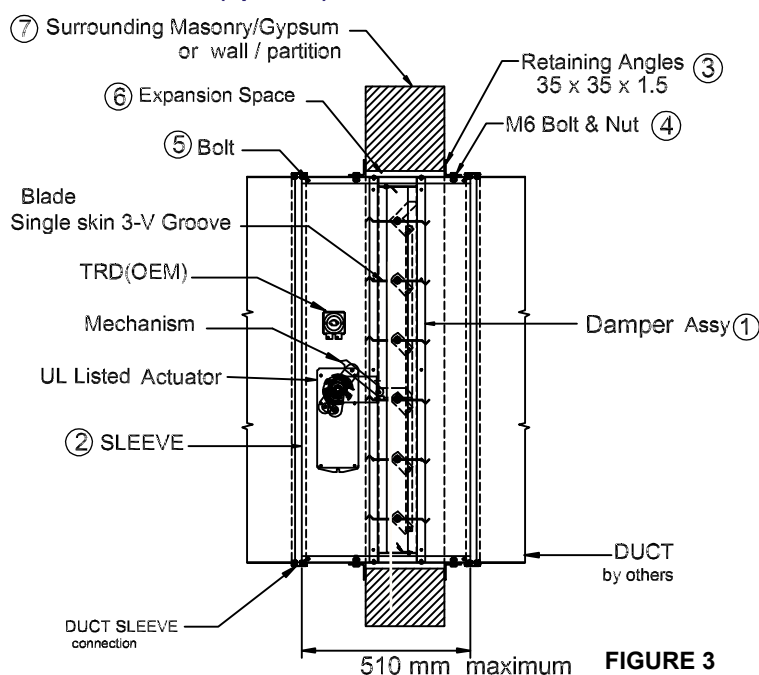

FIGURE 3
- 1) The damper (1) should be installed vertical, centrally and resting on the bottom opening within the surrounding masonry / gypsum wall (7). Actuator should be out of wall / gypsum partition as shown in (figure 3).
- 2) The damper (1) should be installed in a rectangular galvanized steel sleeve (2) with a minimum thickness of 1.1mm. This sleeve should be attached to the damper using M6 bolts (5) and spaced at not more than 110 mm centers and 30 mm from corners.
- 4) The sleeve (2) should be of suitable length to extend through the wall to enable the fitting of the cover angles and ductwork. Minimum of 90mm from the wall and total depth of the sleeve should not exceed more than 510mm.
- 5) The retaining angles (3) should be attached to the sleeve by 6 mm dia (4) bolts at a maximum of 110 mm centers, and should form a complete frame around the sleeve and cover over the expansion space (6) required between sleeve and wall opening. The four corner of the retaining angles are not to be welded. The bolts connecting the retaining angles to the sleeve to be 30 mm maximum from the corners. Retaining angles will be send in loose parts. Note: The retaining angles bolts should be out of the area of the damper frame.
- 6) The retaining angles (3) should be of such a size as always to form an overlap with the wall by 25mm minimum and should be manufactured from a minimum size of 35 x 35 x 1.5mm GI.